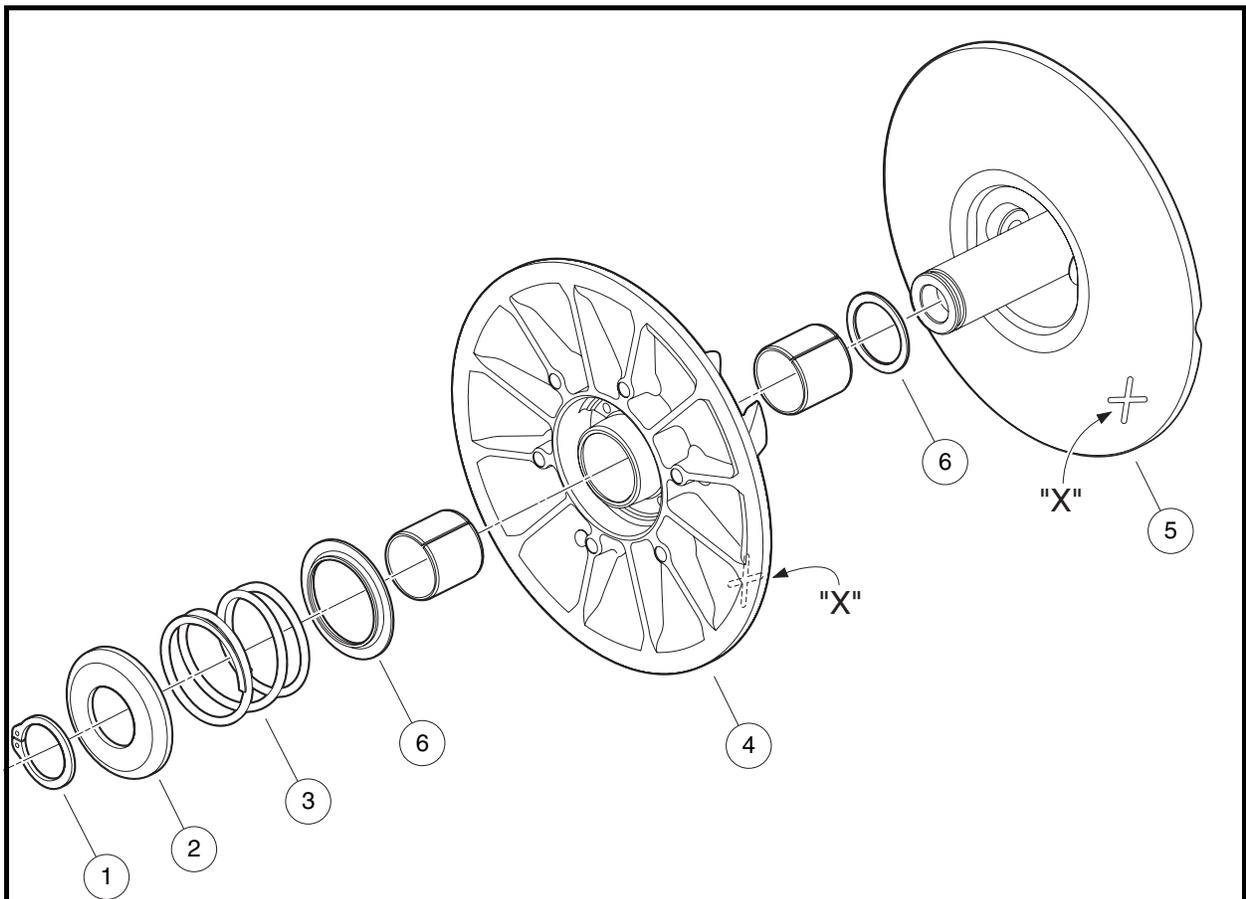

Figure 13b-39 Driven Clutch Assembly
1. Place the fixed sheave (5) onto the spring compression base and note the location of the X so that the X on the moveable sheave (4) can be aligned correctly (**Figure 13b-39, Page 13b-36**).
2. Place the moveable sheave (4) onto the fixed sheave (5), and align the X's on both components.
3. Place the spring (3), cup (2), and snap ring (1) onto the clutch.
4. Place the spring compression collar onto the cup (**Figure 13b-38, Page 13b-35**).